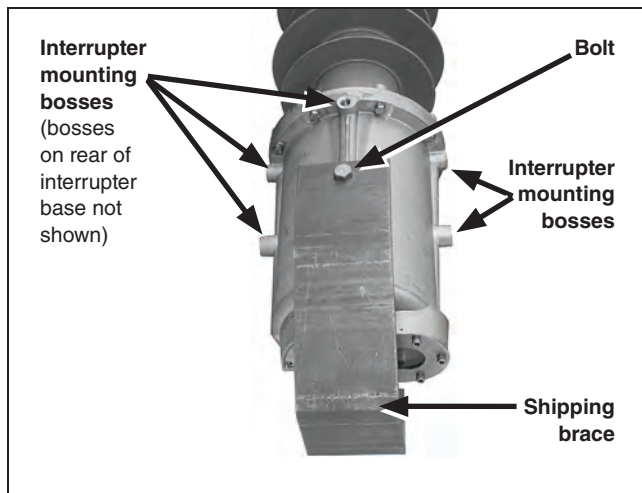

Figure 18. Remove shipping brace.
STEP 3. Remove the shipping brace from the interrupter base. See Figure 18.